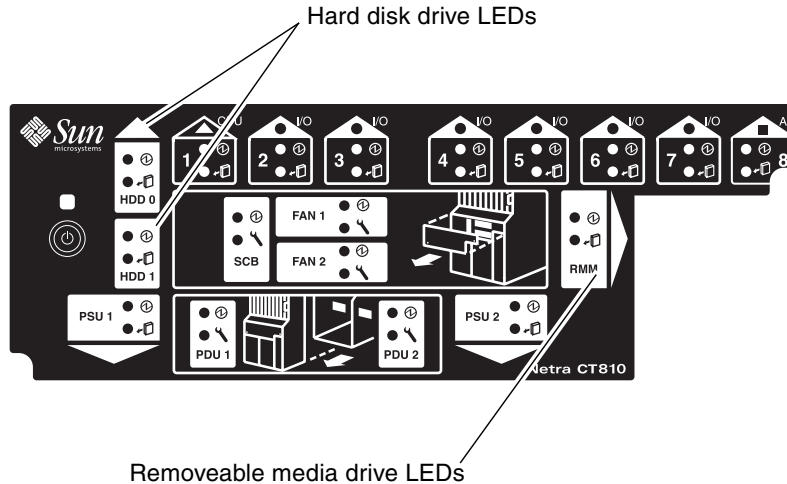

FIGURE 7-1 Locating the Hard Disk Drive LEDs on the System Status Panel (Netra CT 810 Server)
You can also use the hard disk drive (HDD) LEDs on the system status panel to verify that the hard disk drive has been deactivated (FIGURE 7-1). The Okay to Remove LED (➡) on the system status panel for the hard disk drive should go ON, indicating that you can remove the hard disk drive from the slot.
16. Secure the drive bay cover over the drive bays (FIGURE 7-1).
You can also use the hard disk drive (HDD) LEDs on the system status panel to verify that the hard disk drive has been activated (FIGURE 7-1). The Okay to Remove LED () on the system status panel for the hard disk drive should go OFF, indicating that the hard disk drive has been activated.